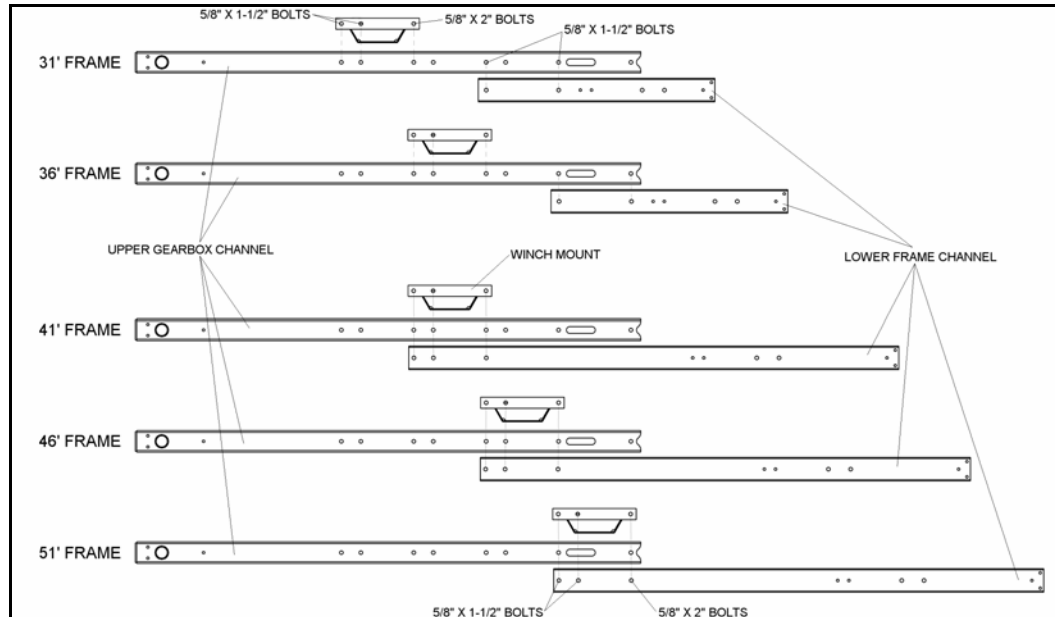

Figure 3.11
1. Use Figure 3.11 to determine where to assemble frame channels and winch mount. On all models, one upper gearbox channel and one lower frame channel bolt to each side of winch mount. The inside surface of the channels face in toward winch mount.